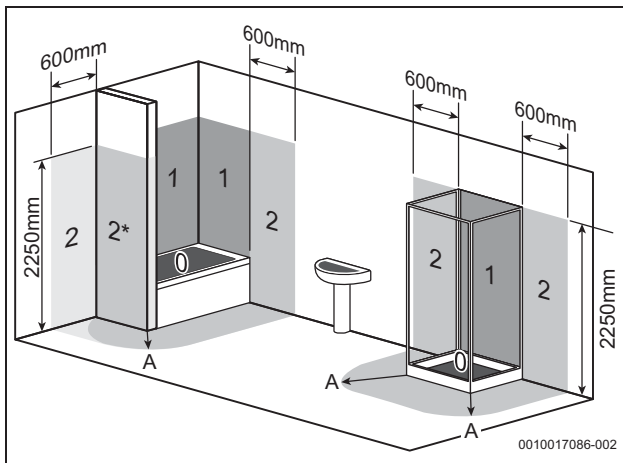

Fig. 12 Bathroom installations
- Figures 12 and 13 are for guidance only.